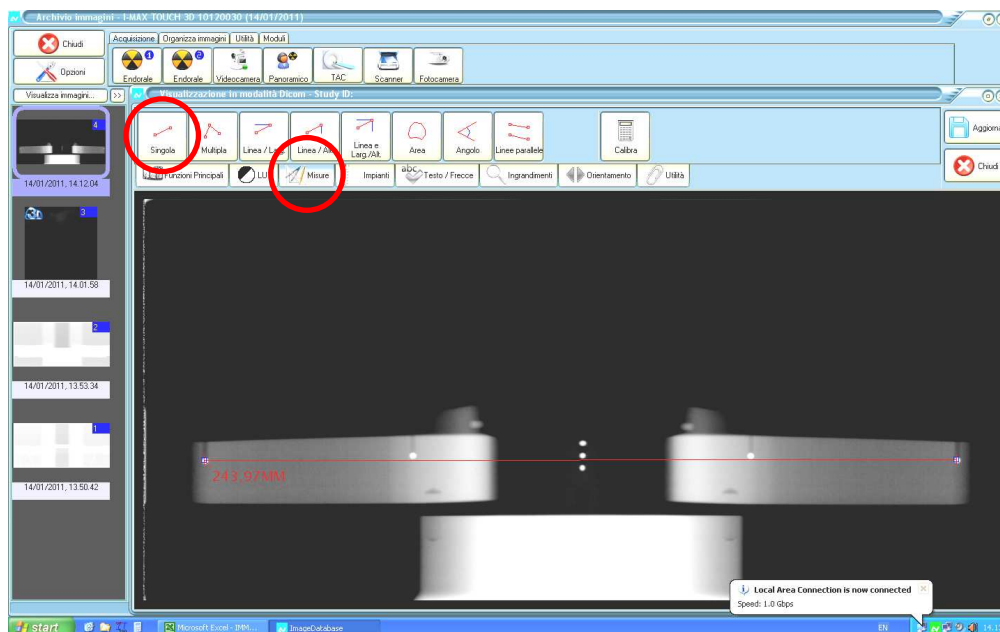

Figure 6-16
6. Set contrast and brightness level to have good visibility of all centering balls. Select from the menu "Measure" (Figure 6-16) the icon "Single" and measure the dimension of the image using as reference the two external balls. The image has to be $244\text{mm} \pm 2\text{mm}$ with Panoramic STD trajectory selected.